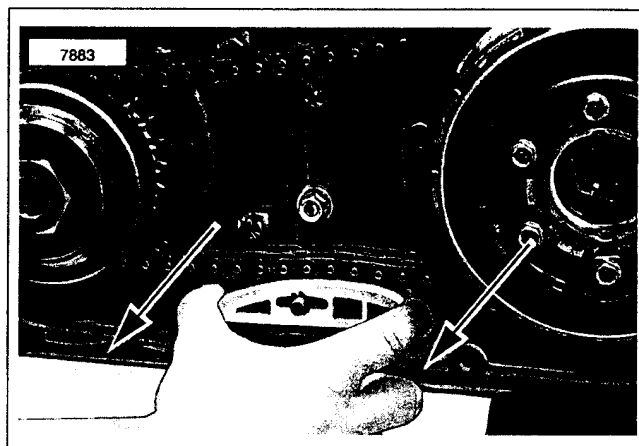

Figure 6-7. Pull/Slide Shoe
3. See Figure 6-7. Pull chain tensioner shoe outward.